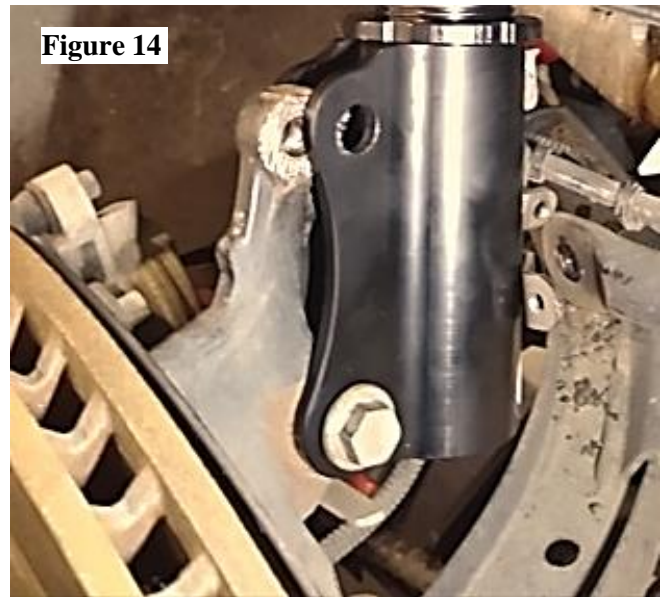

Figure 14
15. Position the spindle knuckle into the bracket on the strut. **(Figure 14)**